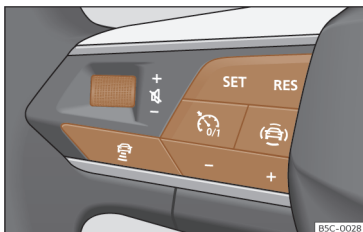

Fig. 131 On the multifunction steering wheel: buttons for operating the ACC.
- Press the  button on the multifunction steering wheel >>> Fig. 131.
- To start regulation, press the button **SET** >>> Fig. 131.
To program the speed, press the + or - >>> Fig. 131 buttons to the desired speed. The speed is adjusted at intervals of 10 km/h (5 mph).
- Press the button  and then the button + or - >>> Fig. 131.
- Briefly press the button  >>> Fig. 131 or press the brake pedal.